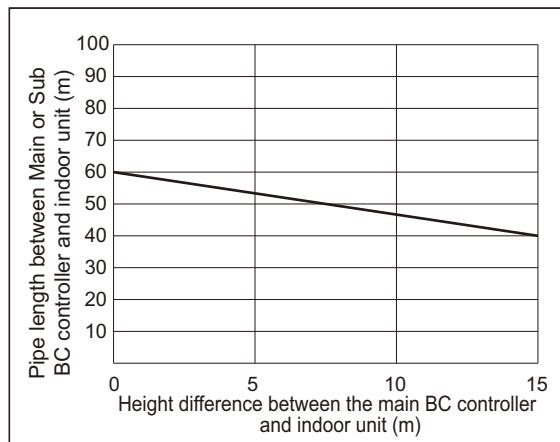

Fig. 2
*2. Details refer to Fig. 2.
*9. When the piping length or the vertical separation exceeds the limit specified in Fig. 2, connect a sub BC to the system.
When using indoor models P/M140 or larger, the restrictions shown in Fig. 2 cannot be exceeded.
- *9. When the piping length or the vertical separation exceeds the limit specified in Fig. 2, connect a sub BC to the system.
When using indoor models P/M140 or larger, the restrictions shown in Fig. 2 cannot be exceeded